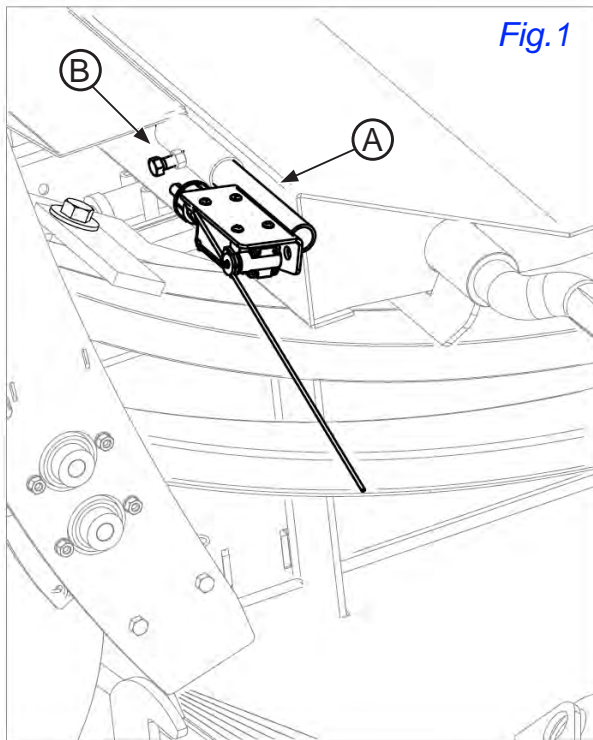

Fig. 1
1. Install film sensor bracket **(A)** by sliding into frame tube and locking with provided bolt **(B)**. See Fig.1.